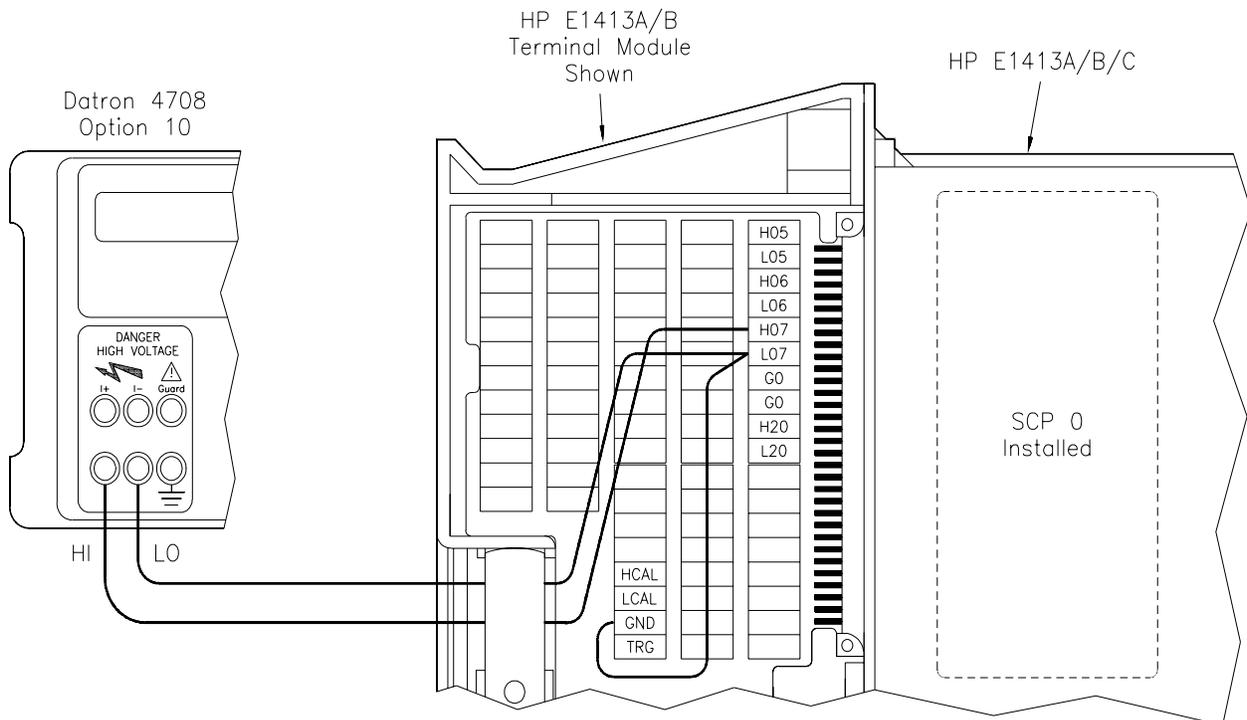

Figure 2-1. A/D Overrange Detection Test Connections
- Set up the equipment as shown in Figure 2-1. Connections are shown to channel 07. You can connect inputs to any channel.